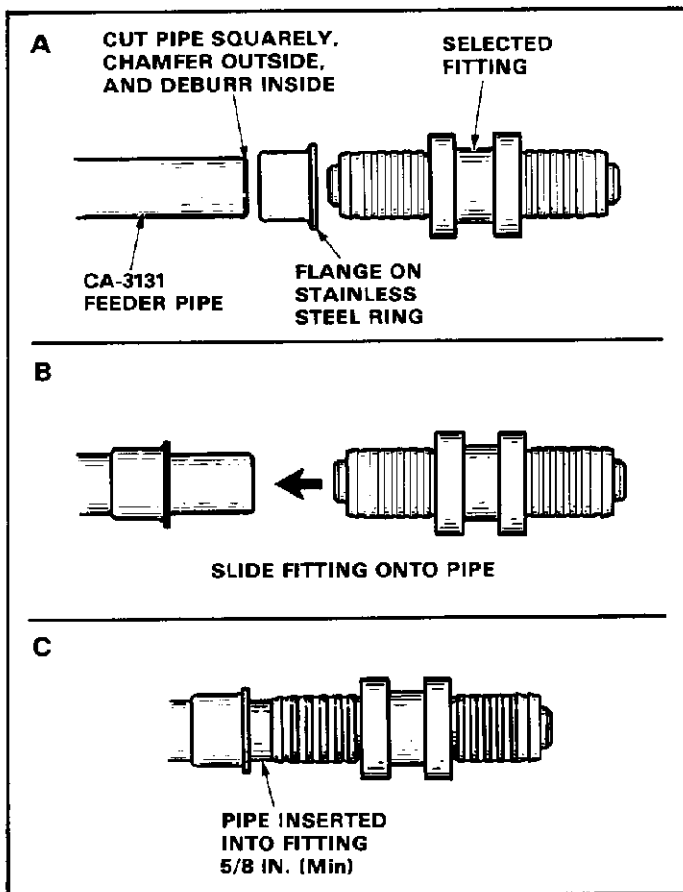

Fig. I-2
I-3. PREPARATION AND ASSEMBLY (Figure I-2)
1. Cut the end of the pipe squarely. Remove any burrs from both the inner and outer diameters of the pipe. See Figure I-2, A.
3. Slide stainless steel ring over end of pipe with flanged end of ring toward fitting, as shown in Figure I-2, B.
4. Slide fitting onto pipe until pipe bottoms inside fitting. The minimum insertion depth is 5/8 inch. Refer to Figure I-2, C.